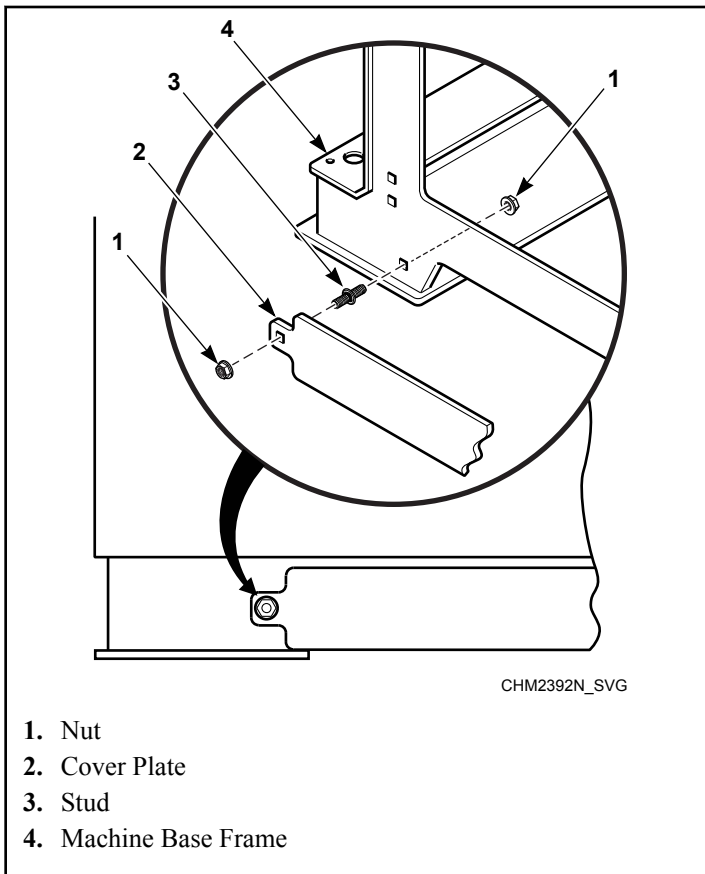

Figure 40
1. Locate the two holes on the front of the machine base frame. Refer to *Figure 40*.
2. Using the hardware from removing plate from back panel, install the cover plate to the machine base frame. The square on stud goes into square hole in machine frame. Refer to *Figure 40*.